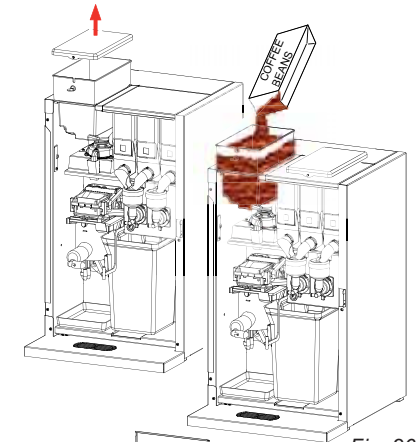

Fig. 26
1. Open the bean canister (fig. 26) with the key.